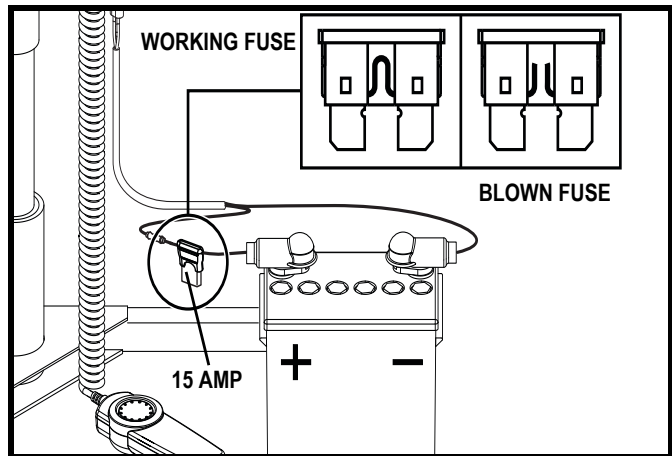

Figure 11. Hardwire Fuse
- If the circuit breaker reset button is not tripped, check the hardwire fuse to see if it is blown. Replace if necessary. See figure 11.
- Check the fuse located on the red power wire near the battery. If blown, replace with a new 15-amp fuse. See figure 11.